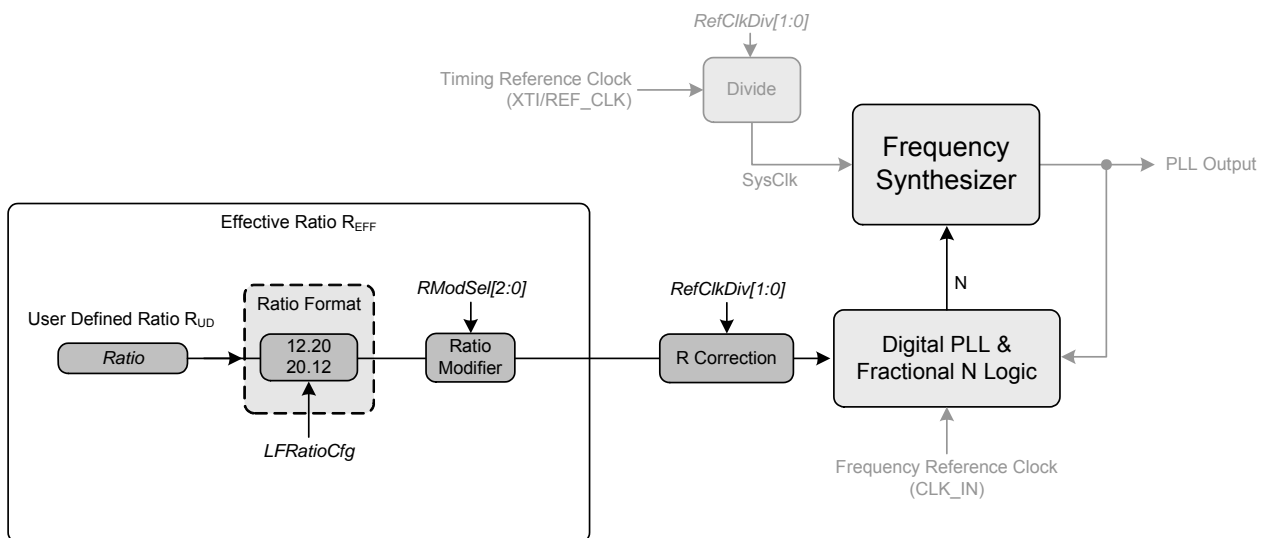

Figure 17. Ratio Feature Summary
The R_{UD} is the user defined ratio stored in the register space. The resolution for the R_{UD} is selectable by setting *LFRatioCfg*. R-Mod is applied if selected. The user defined ratio, and ratio modifier make up the effective ratio R_{EFF} , the final calculation used to determine the output to input clock ratio. The effective ratio is then corrected for the internal dividers. The conceptual diagram in Figure 17 summarizes the features involved in the calculation of the ratio values used to generate the fractional-N value which controls the Frequency Synthesizer.
- Changes made to the registers which affect the Fraction-N value that is used by the Frequency Synthesizer. This includes all the bits shown in Figure 17 on page 19.